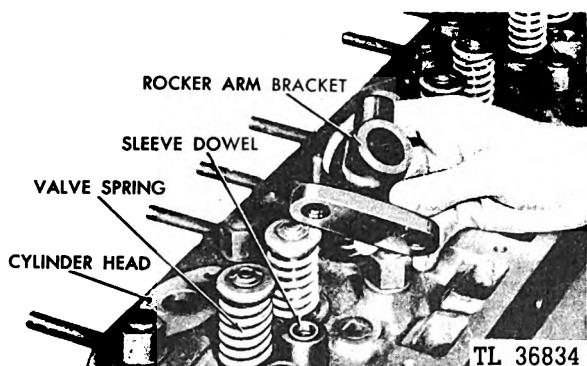

Fig. 182. Installing No. 1 Rocker Arm Bracket
- (1) Install the No. 1 rocker arm bracket. Just start the capscrew into the dowel end of the bracket. (See Figure 182.)